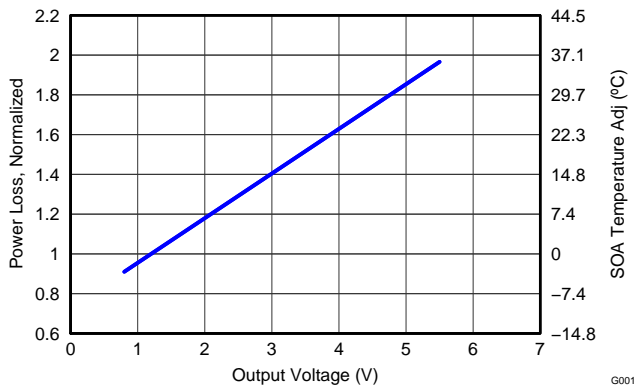

Figure 14. Normalized Power Loss vs Output Voltage
- Normalized Power Loss for output voltage  $\approx$  0.95 (Figure 14)
- SOA adjustment for output voltage  $\approx$  -7.7 $^{\circ}$ C (Figure 14)